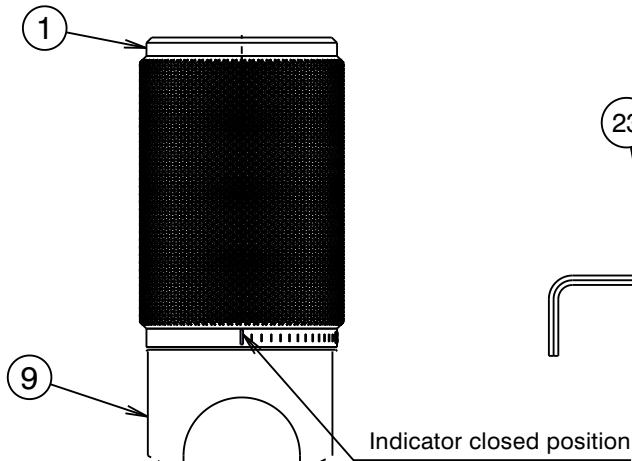
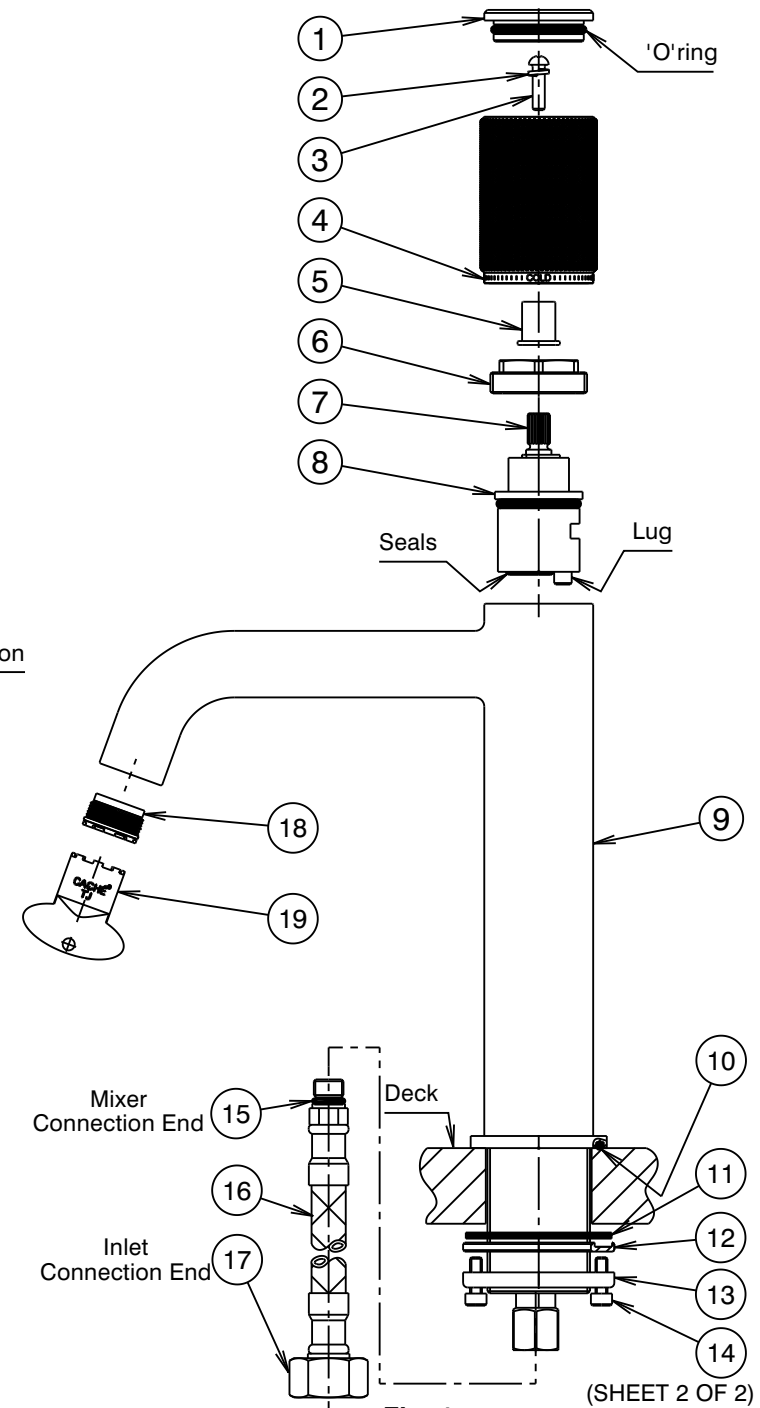

Fig. 3
Fig. 1
- 1) From fixing pack fit 'O'ring (10) into groove in base of mixer (9). Assemble screws (14) into clamp ring (13), the threaded end of each screw should be just protruding from the clamp ring. Fit flat seal (11) into groove in washer (12).
- 2) *Flexible Tail Mixer Connections:* Apply suitable lubricant to 'O' rings (15). Fit flexible tail (16) (with red indication) into hole marked with a Red Dot in underside of mixer body (9). Hand tighten the tail, ensuring the 'O' ring (15) has fully entered the sealing bore to provide a watertight joint. Fit other flexible tail (with blue indication) into remaining hole in a similar manner.
- 3) Insert the inlet connection end (17) of each flexible tail (16) through the hole in the deck. Fit mixer (9) into deck hole, fit washer (12) together with flat seal (11) over threaded tail of mixer as shown (Fig. 1). Screw clamp ring (13) onto threaded tail until it contacts washer (12) & the flat seal (11) has contacted the underside of the deck. Tighten two screws (14) using a 3mm allen key until mixer assembly is clamped firmly to the deck. DO NOT OVERTIGHTEN.
- 4) *Flexible Tail Inlet Connections:* Connect the flexible tails (16) to the hot and cold isolating stop taps, hand tighten the fixing nut (17) until rubber cone contacts the sealing face of the connection end, then tighten a further one turn to provide a watertight joint. **Important:** Flexible tails must not be kinked, twisted or in tension when installed. (Minimum Bend Radius:- 50mm) Do not install flexible tails where subject to ultra violet light.
- 1) Turn metal handle (4) to the closed position.
- 2) Prise out the cap (1) using a thin flat bladed screwdriver in the gap provided. Remove screw (3), spring washer (2) and metal handle (4) and discard. (See Fig.1)
- 2) **When metal handle (4) is fitted (Fig.1):-**
- Loosen grub screw (22) using a 2.5mm allen key (23) then lift timber handle (21) from cartridge spindle. Remove screw (20) and plastic insert (5) from cartridge spindle (7). Unscrew nut (6) then lift out old cartridge (8) (Fig.1).
- 3) Ensure inside face of mixer body (9) is clean. Check that seals are in position in base of new cartridge (8). Fit new cartridge (8) into mixer body (9), taking care that the lug on base of cartridge (8) fits into the mating hole in mixer body (9). Screw on nut (6). **Important:** Nut (6) should be tightened until solid. Rotate the cartridge spindle (7) anticlockwise to the stop position.
- 4) **To replace metal handle (4):-**
Align the closed position indicator on the metal handle to be at the front (Fig.3) then fit the handle (4) onto the spline of cartridge spindle (7). Assemble screw (3) together with spring washer (2) into handle (4) as shown (Fig.1) & tighten screw (3). Replace cap (1) with the gap for removal at the back.
Removing Aerator Insert (Fig.1)